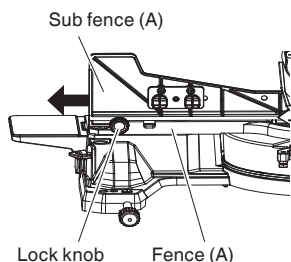

Fig. 11
When right angle cutting, loosen the lock knob, then slide the sub fence (A) outward, as shown in Fig. 11.